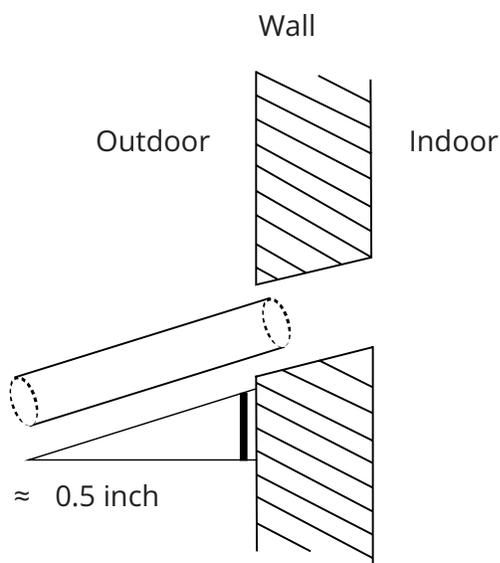

Fig. 5.4
- Using a 2.5" hole saw drill, drill a hole in the wall. Make sure that the hole is drilled at a slight downward angle, so that the outdoor end of the hole is lower than the indoor end by about 0.5". This will ensure proper water drainage (See Fig. 5.4). Place the protective wall cuff in the hole. This protects the edges of the hole and will help seal it once you finish installation.